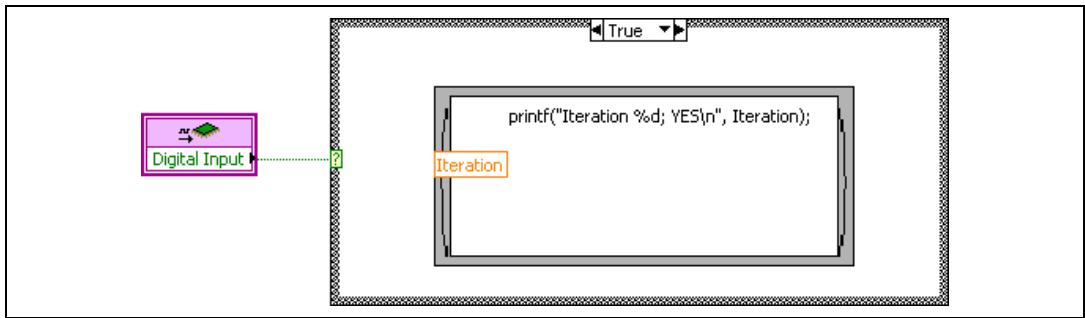

Figure 16. Wiring the Elemental I/O Node to the Case Structure
5. Wire the output of the Digital Input elemental I/O node to the selector terminal of the Case structure as shown in Figure 16.